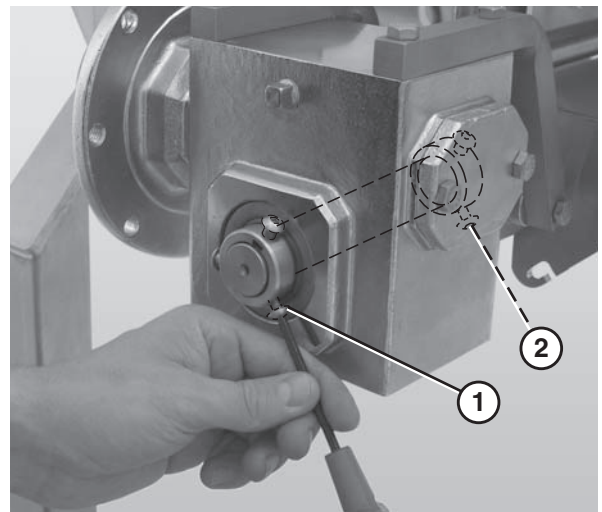

Figure 63
9. Use a 4 mm hex wrench to loosen the outside button head screws (Figure 63, item 1) and the inside button head screws (Figure 63, item 2) that connect the gearmotor to the drive spindle.